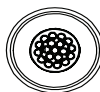

fig.19
If the appliance has an auto-drainage system, there is no plug to open. Instead, ensure that the drainage filter is cleaned. See fig. 19
***This is why it is an important SOP procedure, to regularly ensure that the drain filter fig.19 is clean and free from dirt and waste.***